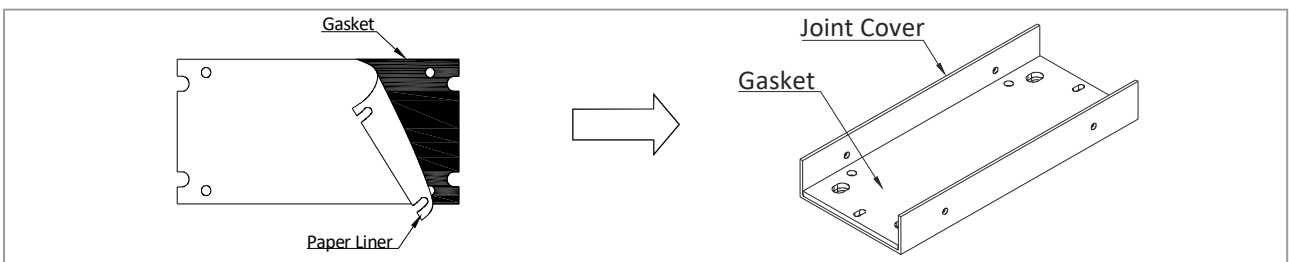

Figure 7.4
5. Paste the gasket to joint cover as shown in Figure 7.4.